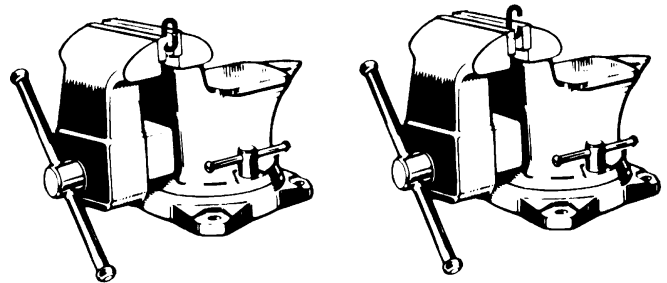

Fig. 5
5. Using an adjustable wrench, twist the link horizontally from front to back. (Figure 5) Open just far enough to insert (or remove) a second chain link.